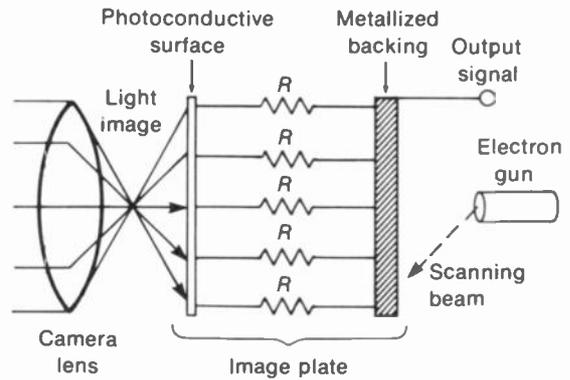

FIGURE 3-4 PHOTOCONDUCTIVITY OF IMAGE PLATE IN A CAMERA TUBE.
**Photoconductivity.** This photoelectric effect is a decrease in resistance with more light. In general, the semiconductor metals including selenium, tellurium, and lead, with their oxides, have this property. The vidicon and plumbicon camera tubes use an image plate that is a thin photoconductive layer. This function is illustrated in Fig. 3-4. For the vidicon, as an example, the resistance of the photoconductive image plate can decrease from 20 MΩ for black to 2 MΩ for white. A disadvantage, compared with photoemission, is that photoconducting materials generally have a slight lag in the buildup and